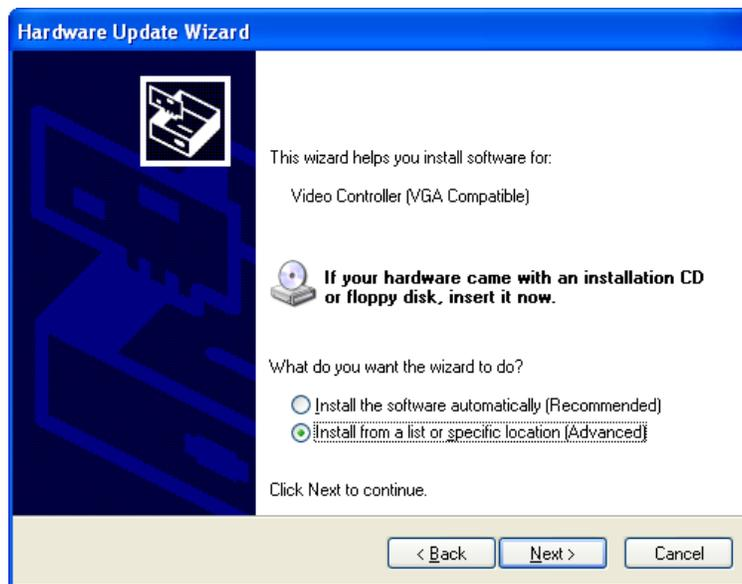

Figure 6-39: Install Options Window
Step 8: The following window (Figure 6-39) appears.